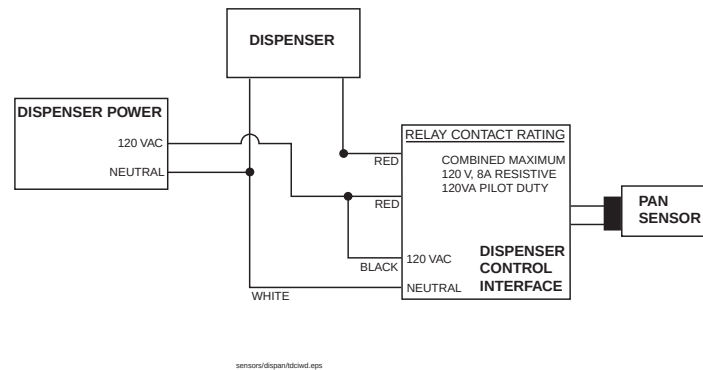
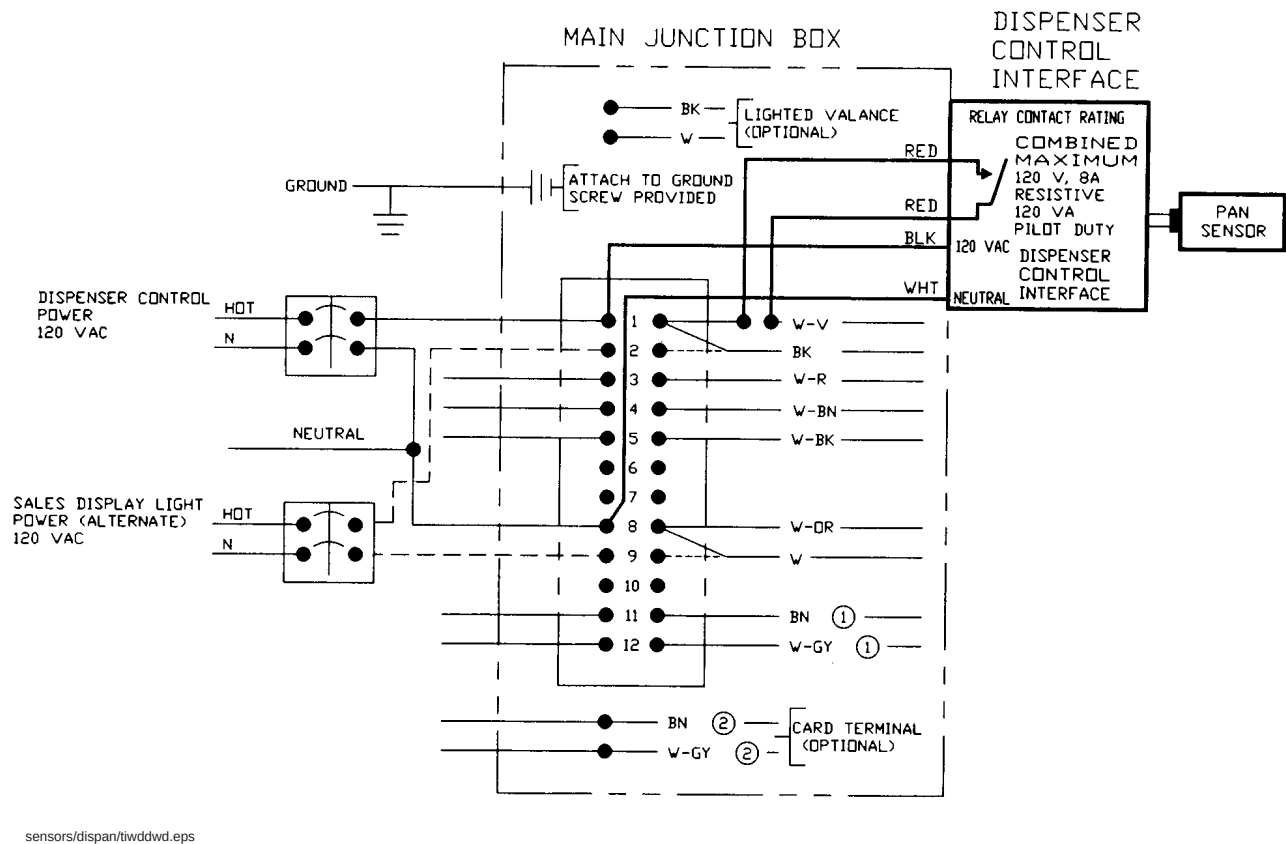
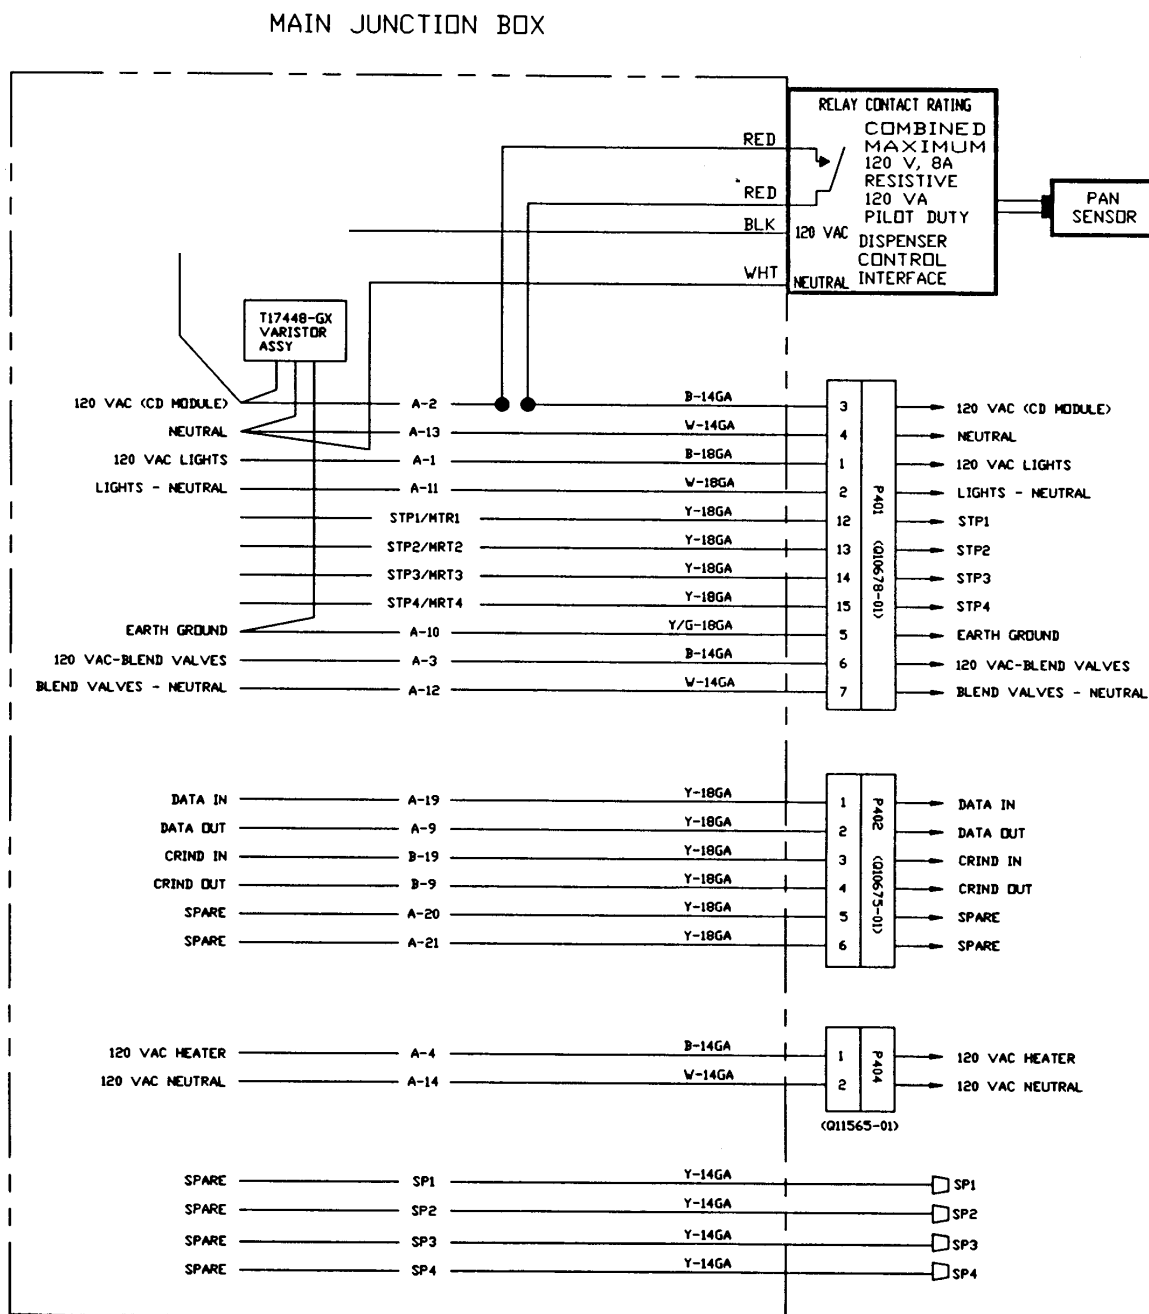
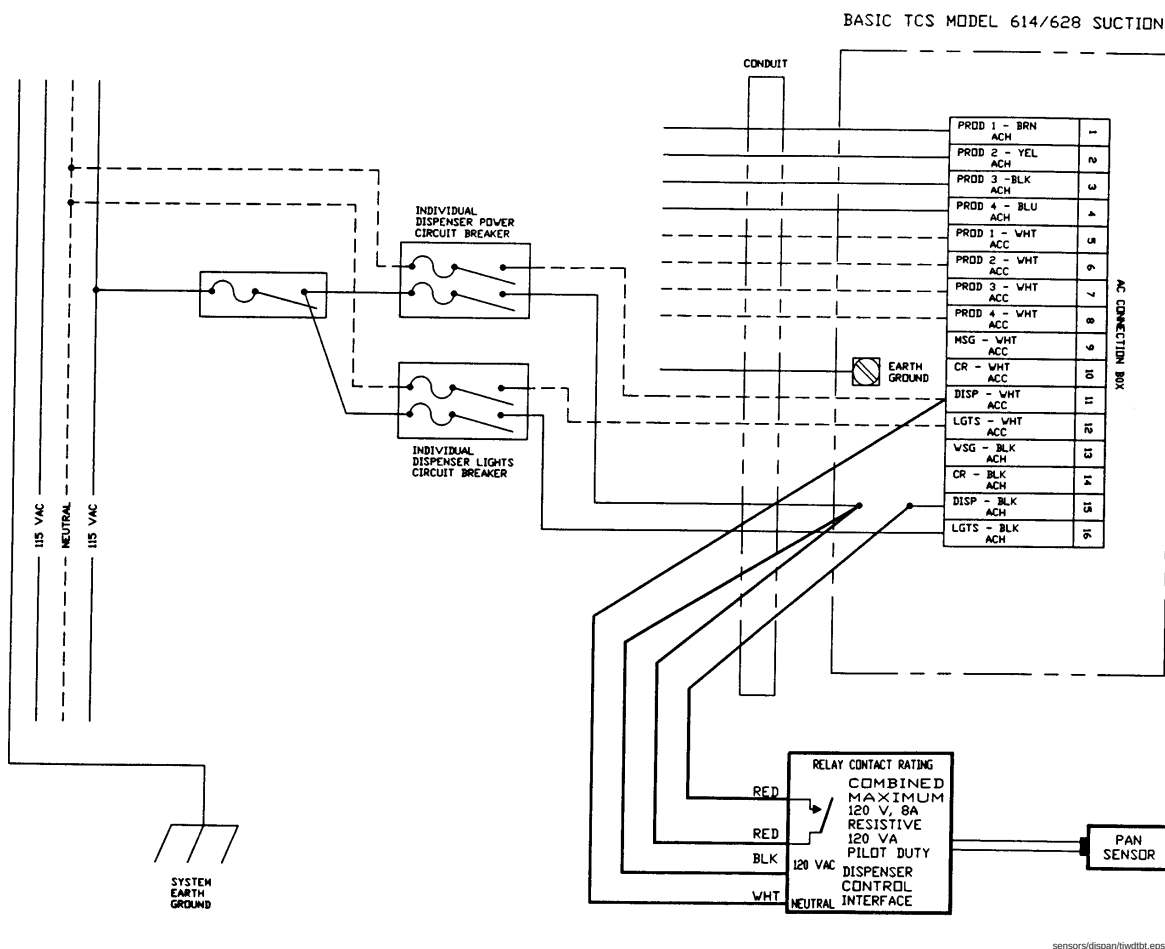

Figure 3. Typical Dispenser Control Interface Wiring Diagram
Figure 4. Typical Installation Wiring Diagram for Dispenser Control Interface to a Dresser-Wayne Dispenser (120 VAC)
Figure 5. Typical Installation Wiring Diagram for Dispenser Control Interface to a Gilbarco Dispenser (120 VAC Models)
Figure 6. Typical Installation Wiring Diagram for Dispenser Control Interface to a Tokheim Basic TCS Model 614/628 Dispenser
8. Use wire nuts or other approved connectors for junction box connections to red, black, and white wires of the Dispenser Control Interface. See Figure 3 on page 10.
1. Wire Dispenser Control Interface to dispenser according to the appropriate Dispenser Control Interface wiring diagram (Figure 3 on page 10, Figure 4 on page 10, Figure 5 on page 11, Figure 6 on page 12, Figure 7 on page 13, Figure 8 on page 14, or Figure 9 on page 15).